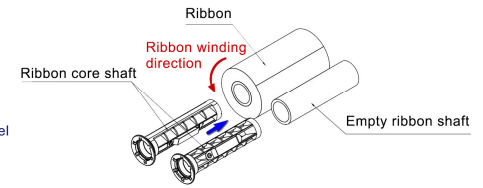

Fig. 2.3.2
- B) For the ribbon shaft with an inner diameter 25.4mm (1 inch), insert the ribbon core shaft into the ribbon and the empty ribbon shaft separately (see Fig.2.3.2). Then the following operation is the same as in the step A).
- 2) Lead the front end of ribbon (see Fig.2.3.2) go through under the print head module and wind it onto the rewinding shaft of ribbon;